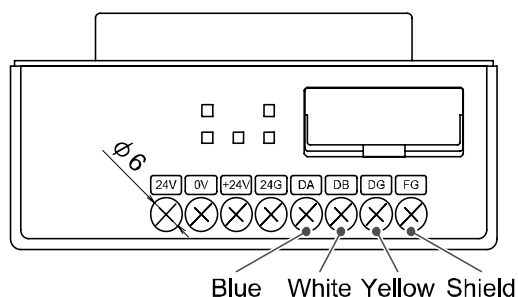

Fig. 1
- (1) Be sure to connect each signal line to its dedicated terminal. (Refer to Fig. 1)